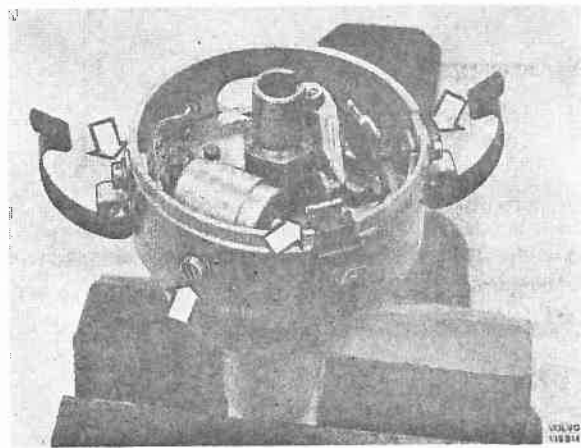

Fig. 34-11. Removing the low-voltage terminal.
2. Remove the lock clasps for the cap. Disconnect the cable from the breaker contacts and remove the condenser with its low-voltage terminal; Fig. 34-11.